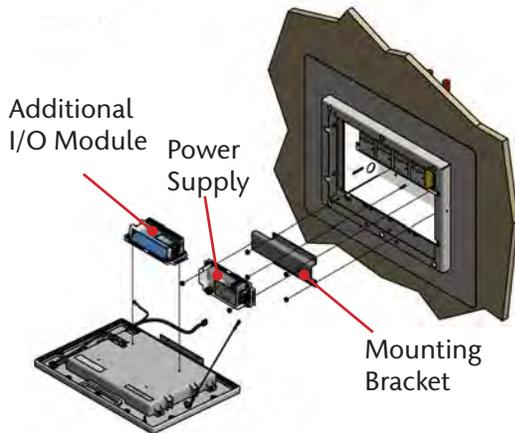

Figure 120: Power Supply, Module Mounting
- b. Mount the new Power Supply (B05) to the bracket using the nuts provided (Figure 120).